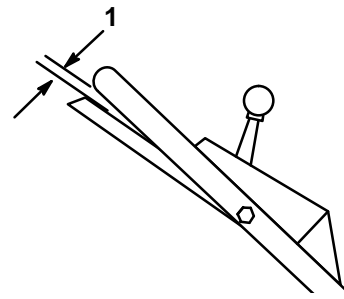

Figure 23
- CHECK ADJUSTMENT—Slowly pull mower backward while control bar is gradually moved toward handle. Adjustment is correct when rear wheels stop turning and control bar is about one inch from handle (Fig. 23).